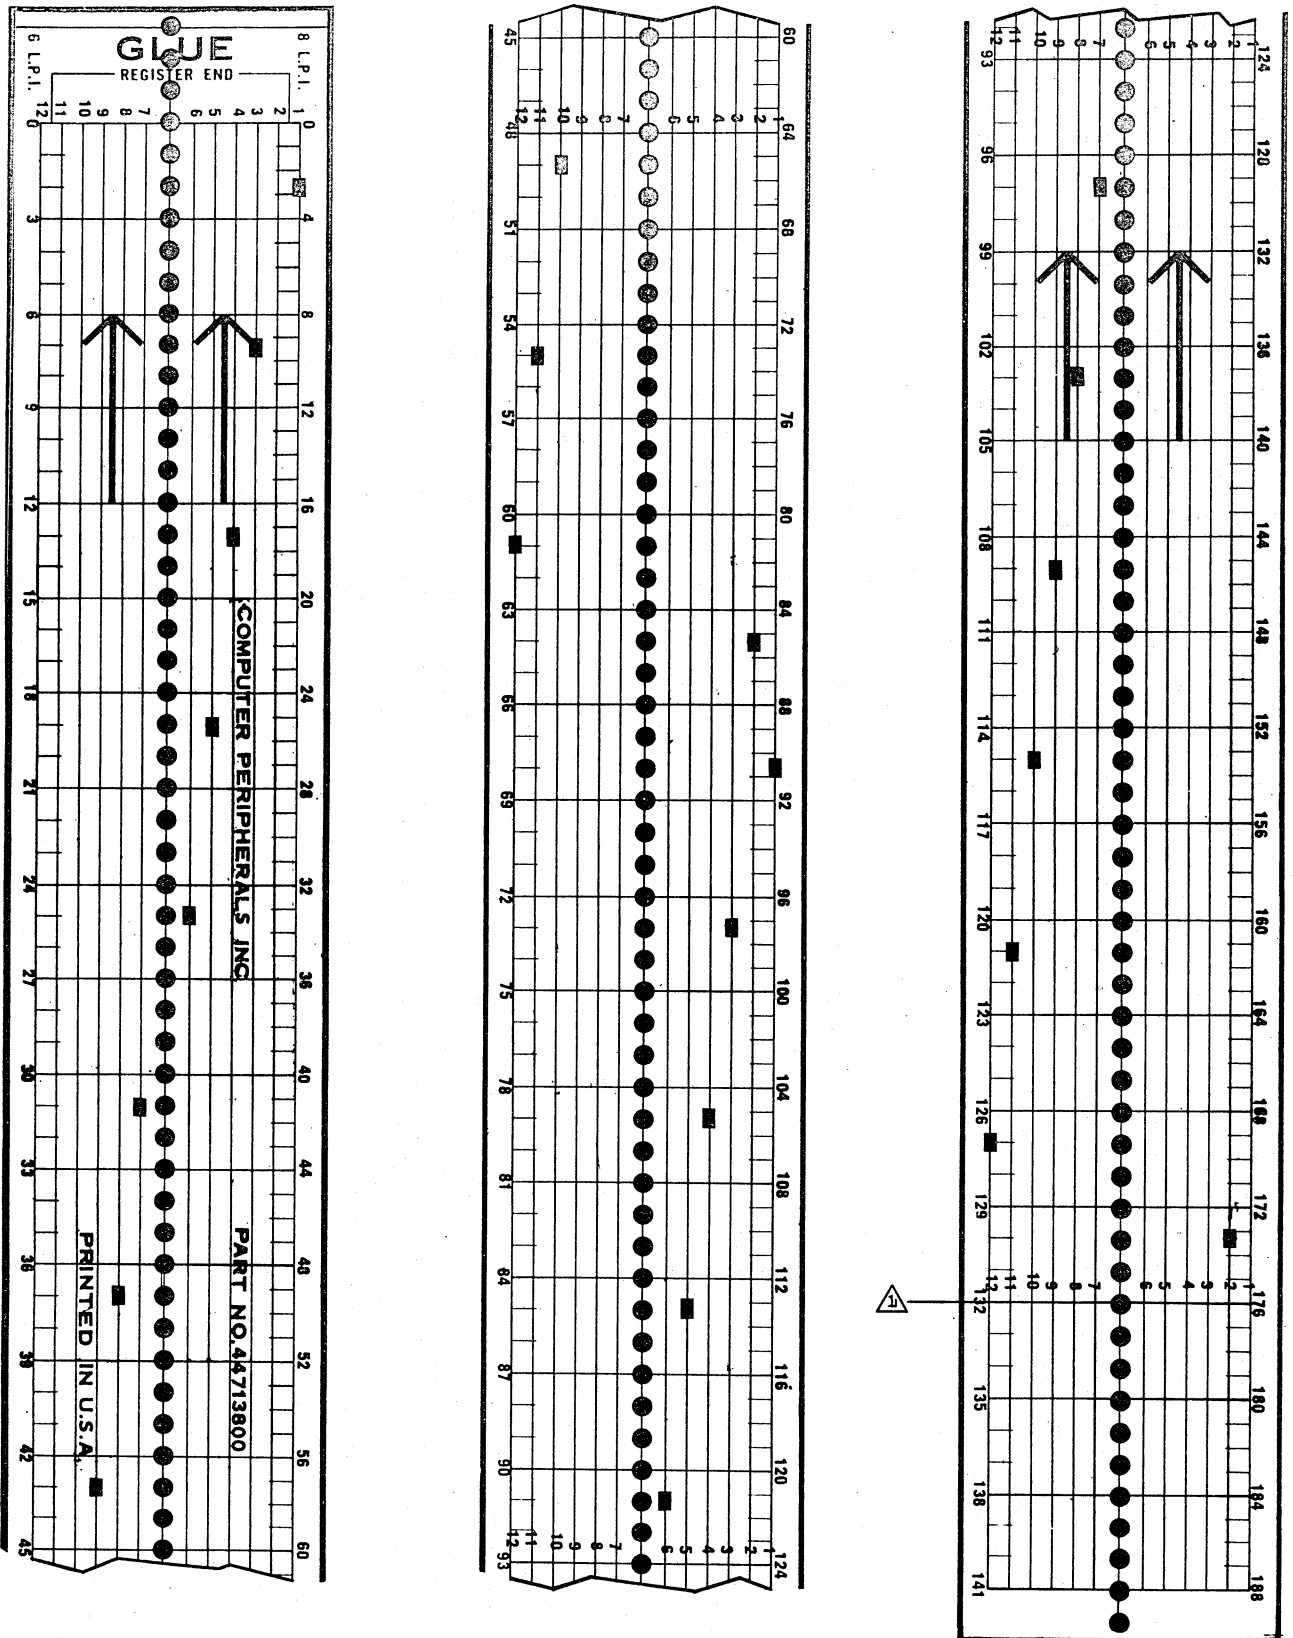

FIGURE 2-1. DIAGNOSTICS FORMAT TAPE (PART NUMBER 50370404)
14. A sample, punched, diagnostics format tape (part number 50370404) is included as Figure 2-1.